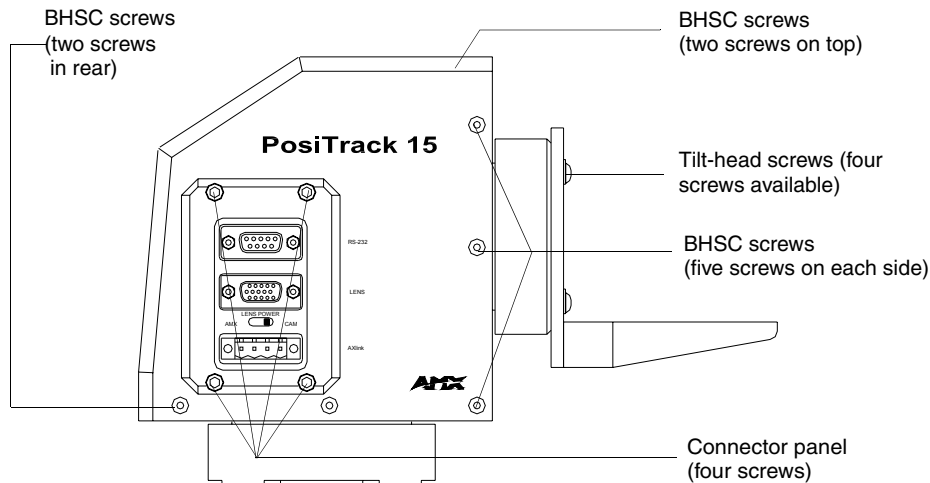
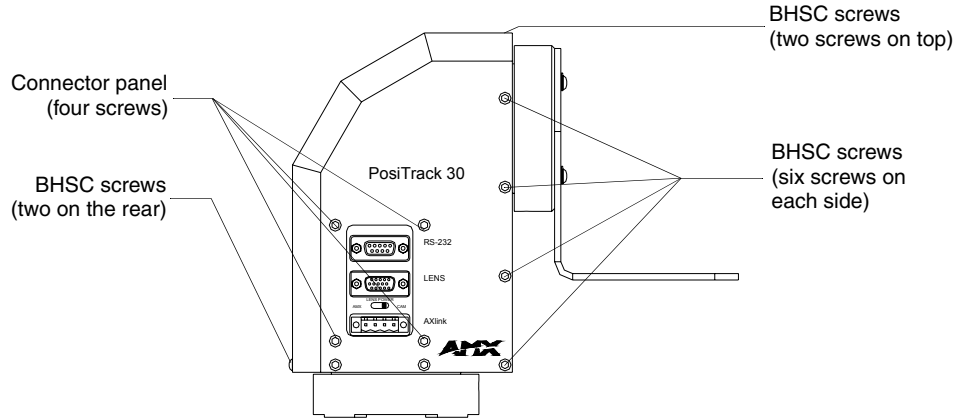

FIG. 6 Pan-head screw locations
FIG. 9 Pan-head screw locations
3. Remove the four screws, located around the connector panel (FIG. 6), by using the 1/16" Allen wrench. *BHSC is the abbreviation for the Button Head Socket Cap screws.*
3. Using the 1/16" Allen wrench, remove the four #4-40 socket head screws located around the connector panel (FIG. 9), by using.
4. Remove the 16 BHSC screws, using the 5/64" Allen wrench, from the left, right, top, and back sides of the AXB-PT30. A sample view of the screw locations is shown in FIG. 9.
The camera/lens power switch, located between the AXlink and DB-15 connectors, regulates the power to the camera/lens from the PosiTrack unit. The power switch, seen in FIG. 6 and FIG. 9, Opens (turns Off) or Closes (turns On) the circuit feeding power to the camera/lens assembly. Refer to the *Wiring the Connectors* section on page 20 for more information about the control panel.